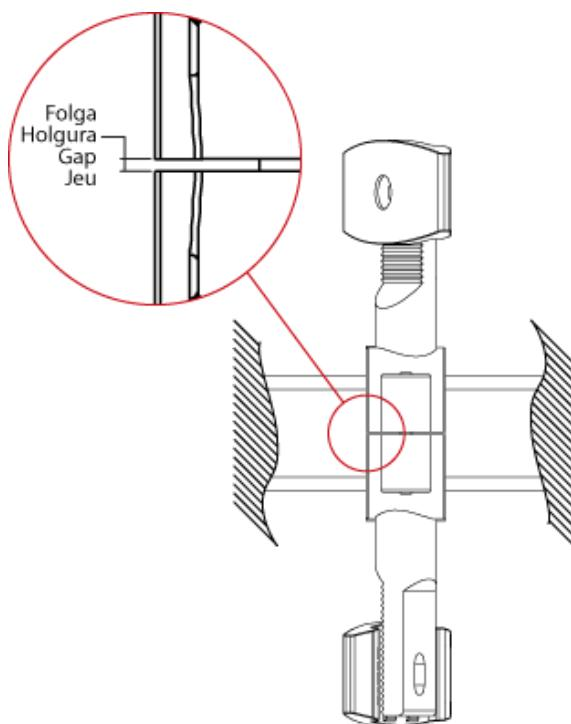

Fig. 2: Folga dos braços / Holgura del brazos / Mixer arms gap / Jeu des bras
- To replace the arms and paddle tips, loosen the bolts and remove the paddle tip, figure 2 - detail B, and the arm, detail C. It may be necessary to replace the paddle tip bolts. To adjust the mixer, go to group **01.05.09 - Mixer - Mixer adjustment**.